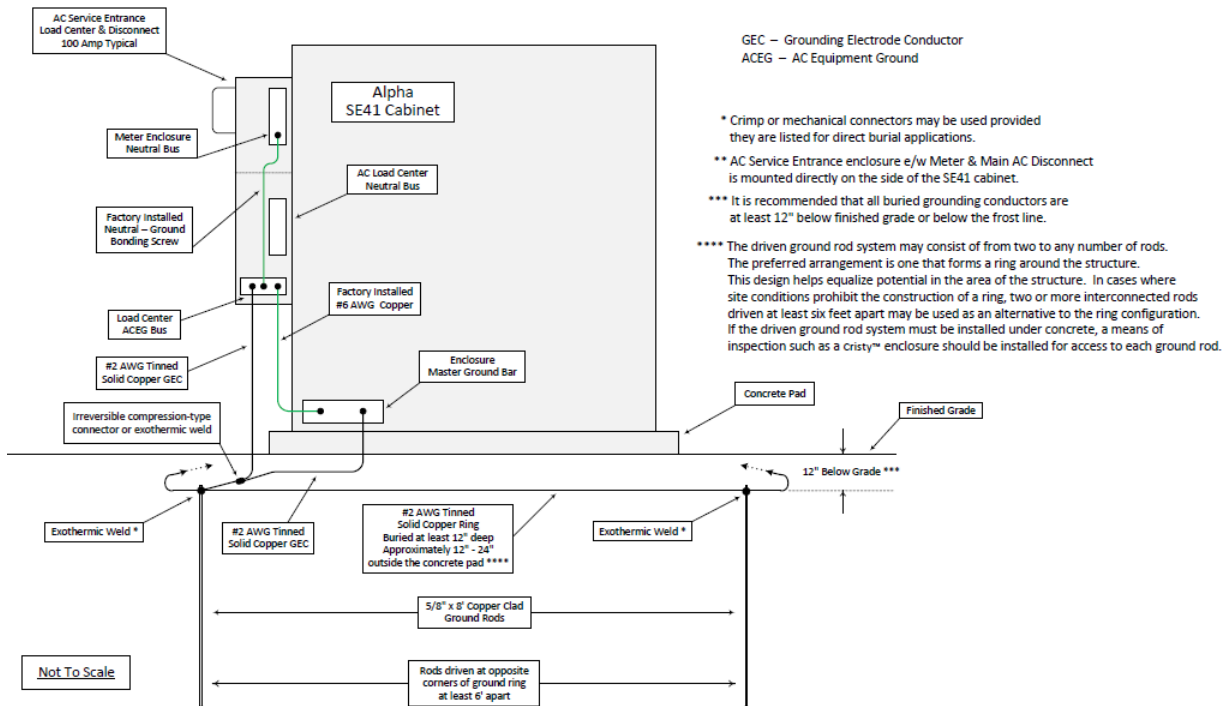

Figure 1 – SE41 RPN combo meter & load center grounding diagram
1. Install a #2AWG tinned solid copper site ground wire (grounding electrode conductor) originating at the closest driven ground electrode and connect it to the Load Center AC Equipment Ground (ACEG) bus (refer to Figure 1).
2. Route a length of #2AWG tinned solid copper conductor from a junction point on the grounding electrode conductor (GEC) and connect to the Enclosure Master Ground Bar (MGB) using an appropriate compression two-hole lug (Refer to Figure 1).
Note: Avoid tight radius bends and route the conductor such that it intersects with the GEC at a downward orientation as illustrated in Figure 1.